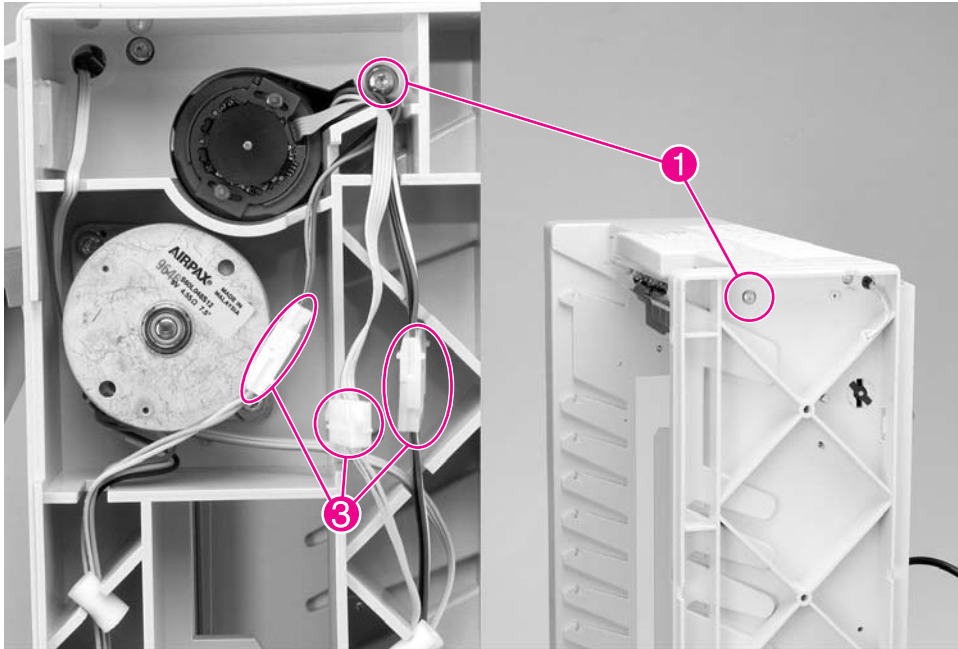

Figure 6-156 8-bin Mailbox Flipper Assembly (1 of 3)
- 3 Remove the 2 screws closest to the upper-left side of the 8-bin Mailbox: 1 screw on the front and back sides of the 8-bin Mailbox frame (Figure 6-156, callout 1).
- 5** Unplug the Flipper Assembly's 3 cables from the connectors that are located on the 8-bin Mailbox unit's back side (Figure 6-156, callout 3).
- 2 Route the Flipper Assembly's 3 cables through the back side of the 8-bin Mailbox frame and reconnect the 3 cables to the connectors (Figure 6-156, callout 3).